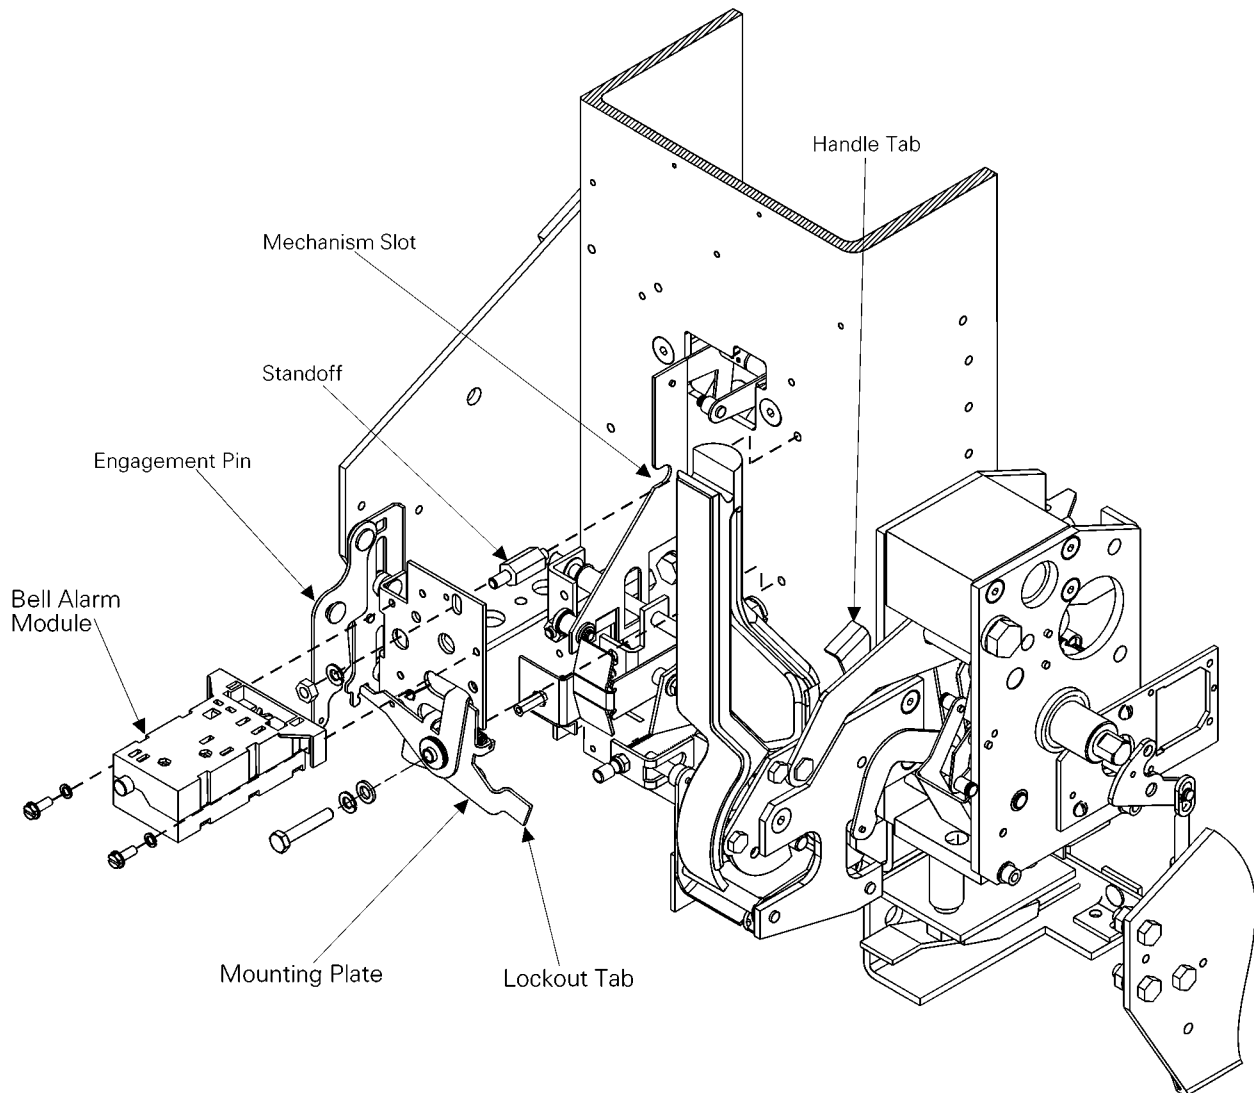

Figure 8-2. Removing and installing the bell alarm module and mounting plate (shown in the lockout position).
Use the following procedure to remove the bell alarm module and mounting plate, as illustrated in Figure 8-2. If only the bell alarm module is to be replaced, it is not necessary to also remove the mounting plate (stop with step 4).
Use the following procedure to install the bell alarm mounting plate and module, as illustrated in Figure 8-2. If this is a new installation into a breaker that was not equipped at the factory with a bell alarm, see the installation instructions in DEH–164, supplied with the bell alarm kit. If only the module is to be replaced, begin at step 3.
3. Line up the Bell Alarm module on the mounting plate, as shown in Figure 8-2, so that the solenoid plunger and locating pin fit in the appropriate holes.